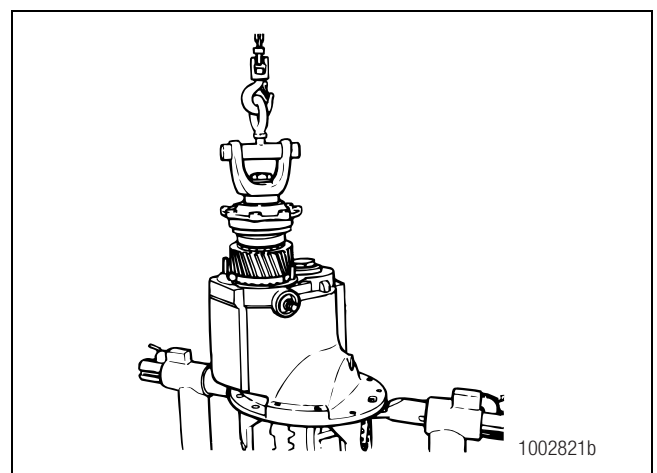

Figure 5.81
- D. Lower the input shaft assembly into the differential carrier. Figure 5.81.